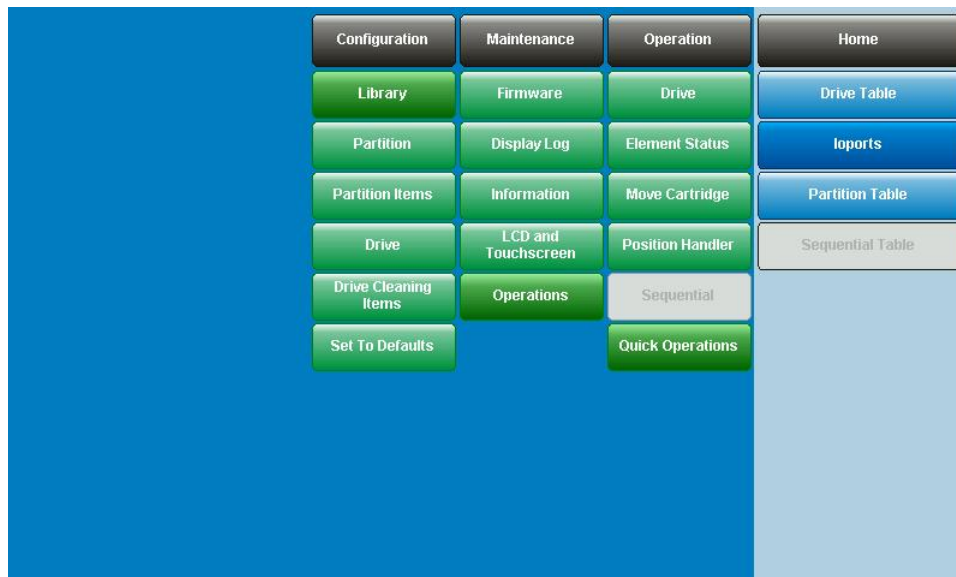
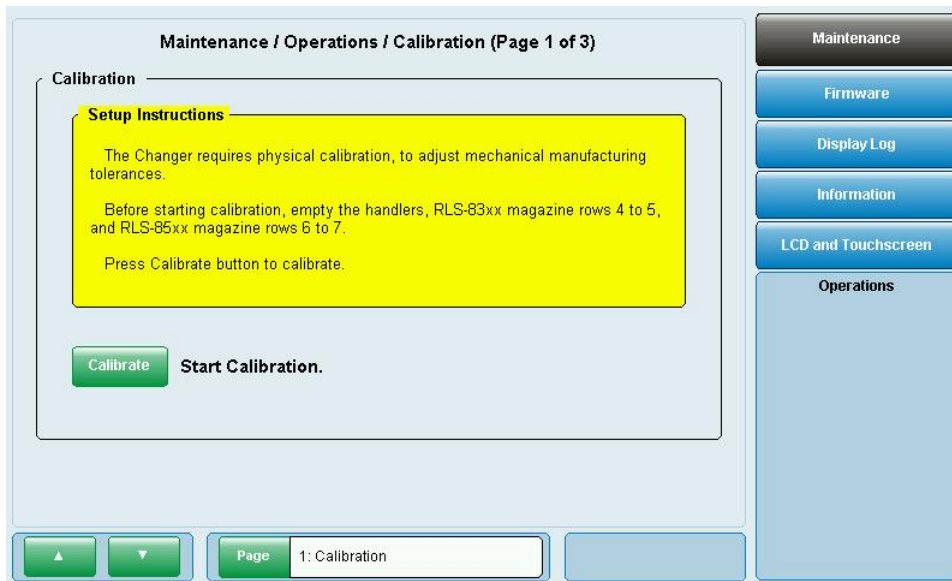

Figure 5-24 Control Panel Menu Navigation Screen
Figure 5-25 Maintenance/Operations/Calibration Screen
25. The Menu Navigation screen provides direct access to all the control panel views. See Figure 5-24. Locate and press the Maintenance/Operations button. This will bring up a screen that provides access to the calibration control screen, shown in Figure 5-25
26. The Maintenance/Operations/Calibration page should now be visible and the Calibration page is the first sub-page as shown in Figure 5-25.